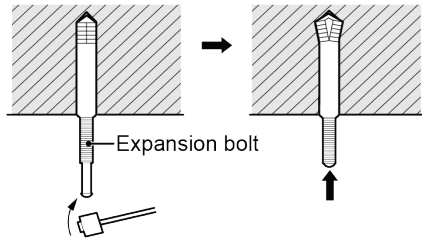

Fig.4
- 2) Insert the M10 expansion bolt into the hole and then knock the nail into the bolt, as shown in Fig 4.